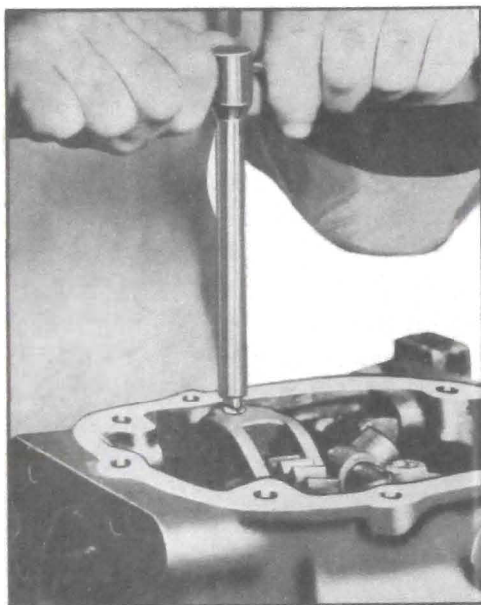
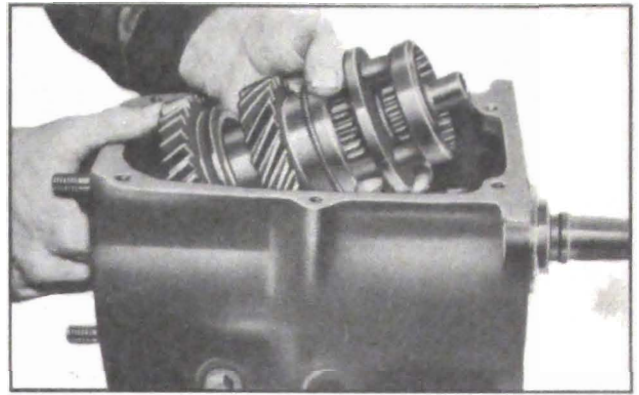

Figure 4-29—Removing Set Screw with Remover J 2895
Figure 4-35—Removing Main Shaft Assembly
3. Remove the four set screws from shifter levers and shifter yokes, using Remover J 2895. See figure 4-29.
9. Remove shifter yoke set screws, using Remover J 2895 (shown in fig. 4-29), then lift the main shaft and assembled parts out through top of transmission case. See figure 4-35.